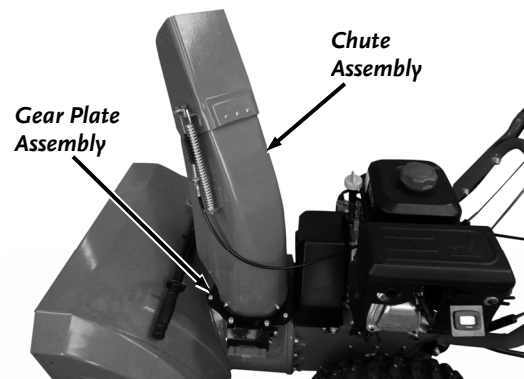

Figure 13
12. Place the Chute Assembly onto the Gear Plate Assembly and align the mounting holes (**Figure 13**).